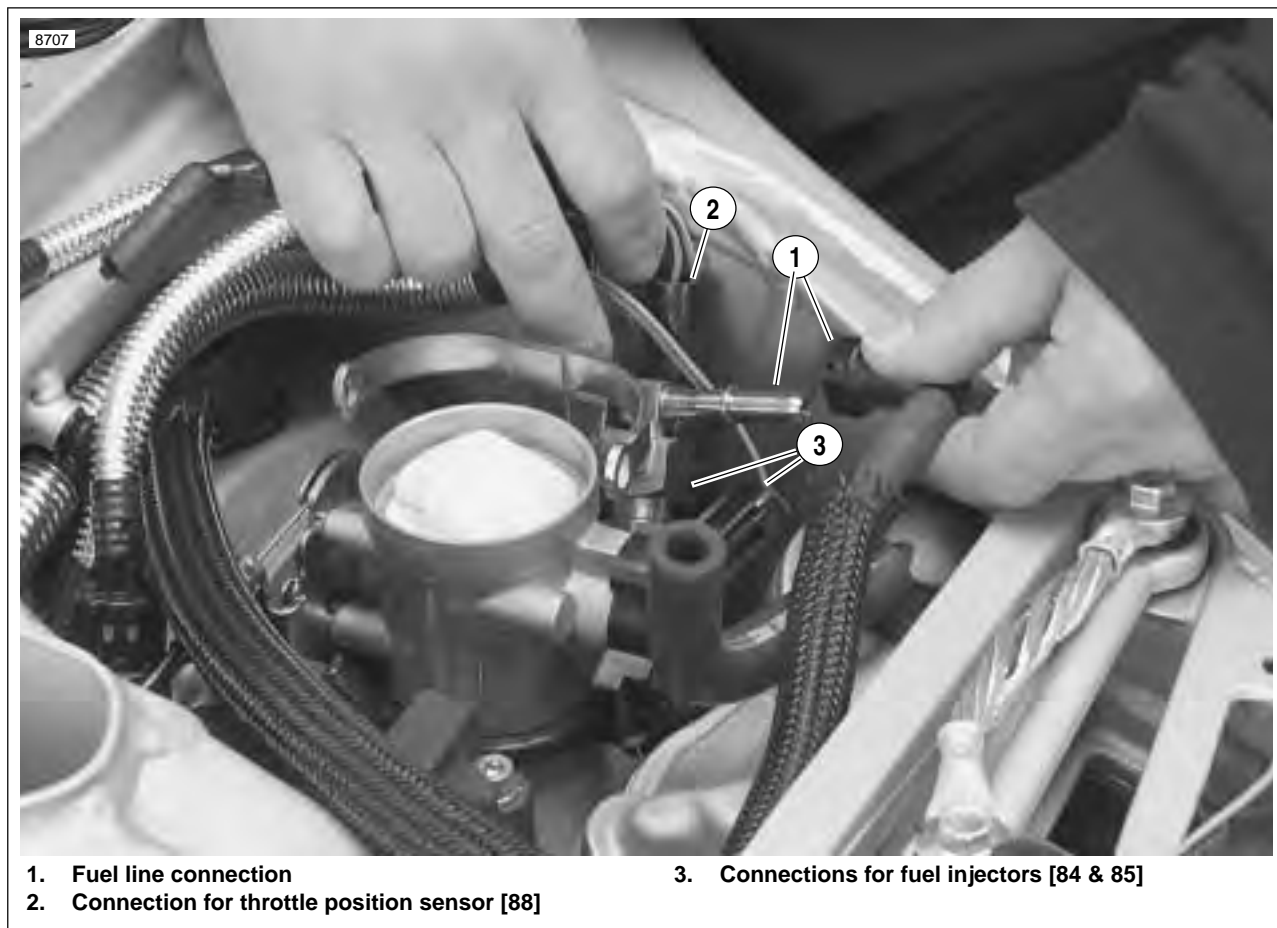

Figure 3-61. Fuel Line and DDFI Electrical Connections
43. See Figure 3-61. Connect throttle position sensor [88].